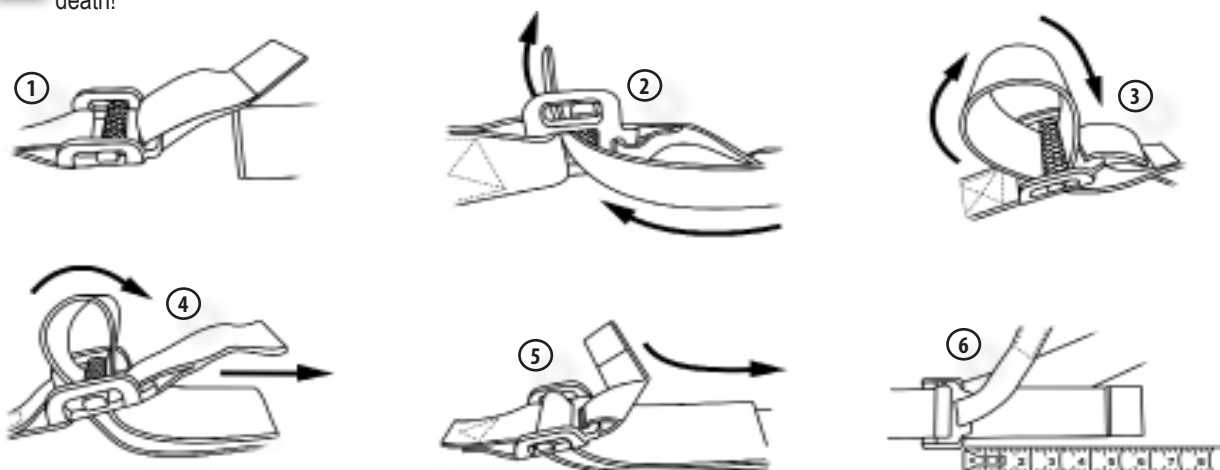

Figure 11
STEP 2: Secure the tree belt by inserting the tag (free-end) through the slot in the buckle closest to opposite end of the tree belt, then cross over the sliding mechanism and back down through opposite slot. Pull on tree belt to secure and test to make sure sliding mechanism engages, creating secure tree belt placement. Refer to Figure 11 for proper tree belt buckle threading.
WARNING! YOU MUST thread the tree belt buckle as shown in Figure 11. Failure to thread the buckle as shown will result in the belt failing to hold and separation from the tree trunk. Failure to follow these instructions may result in serious injury or death!